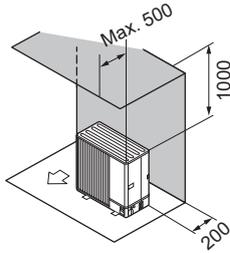

Fig. 1-7
- (2) Obstructions or closed surfaces at rear and above only (Fig. 1-7)